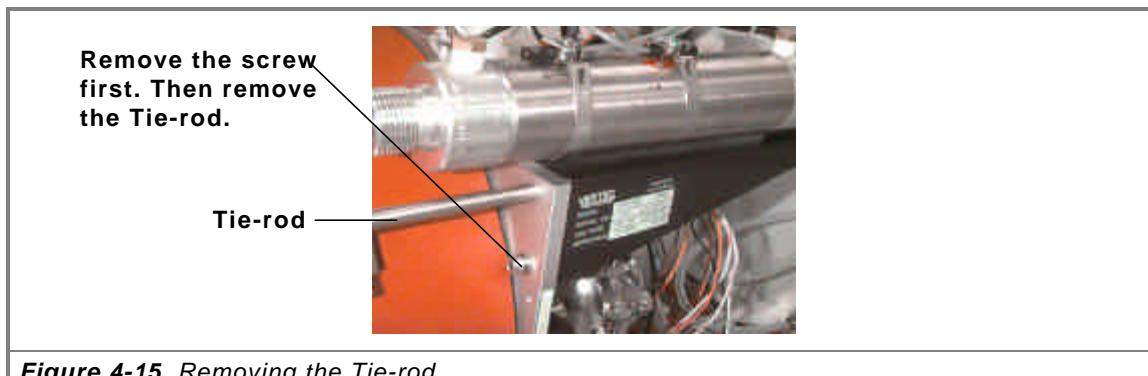

Figure 4-15. Removing the Tie-rod.
25. Remove the Bimba cylinder and bracket assembly. Refer to Figure 4-15.